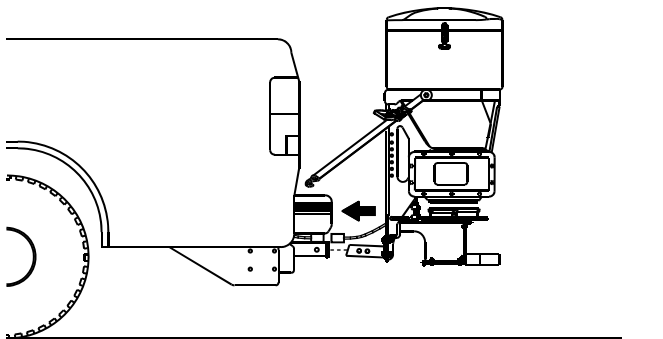

Figure 6
- Slide the hitch on the spreader into the receiver hitch of your vehicle and line up the second hole on the spreader hitch with the hole in the hitch of your vehicle (Figure 6).